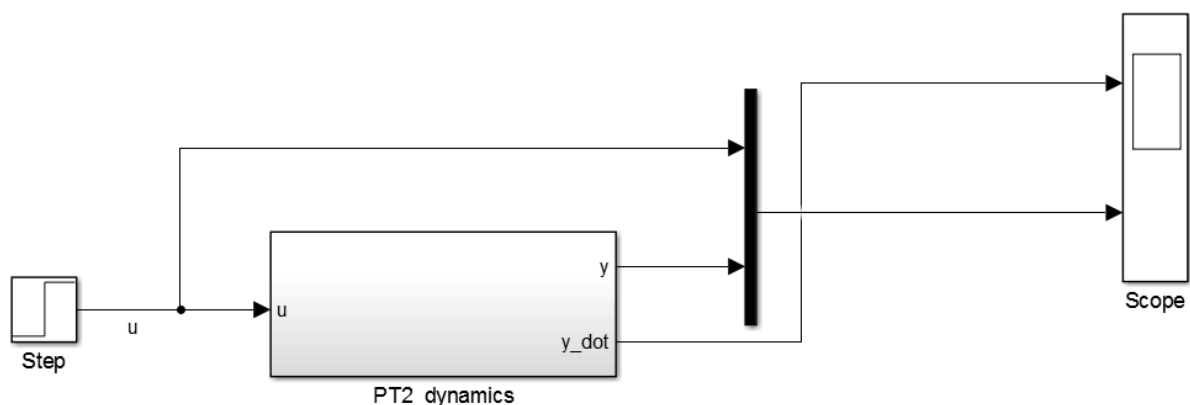

Figure 1-7: Final form of model PT2.slx
- (12) Finally, the blocks' sizes and positions can be adjusted by dragging&dropping them to obtain the diagram of Figure 1-7.
- (13) Save your model and run the file `call_test_ex1.p` (right-click and choose 'Run'), if you get the message